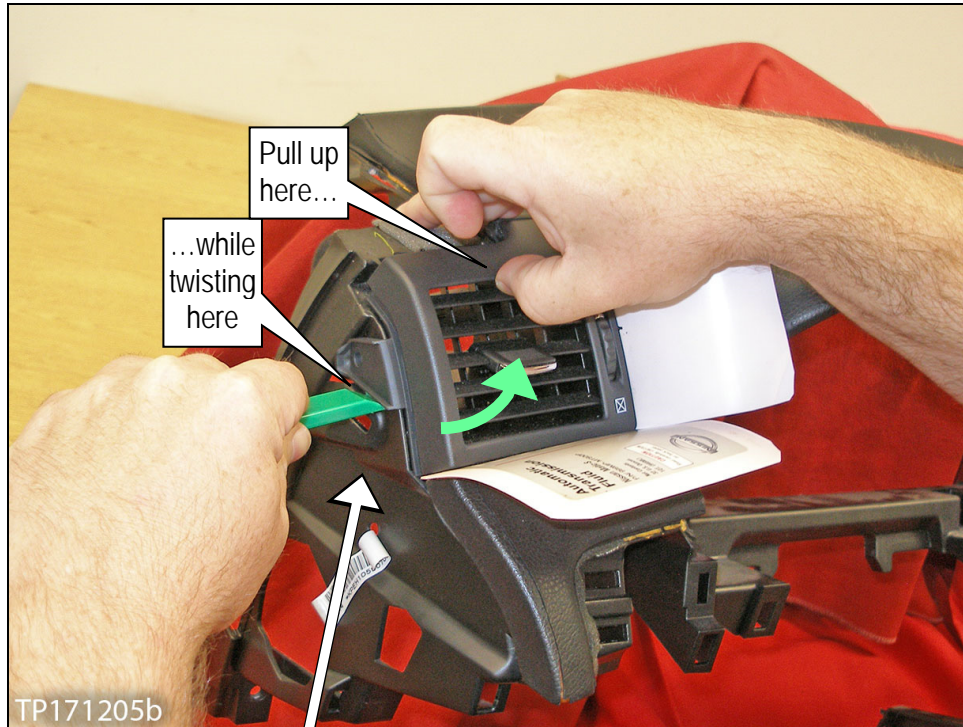

Figure 20
- Remove the side ventilator grille as shown in Figure 20.